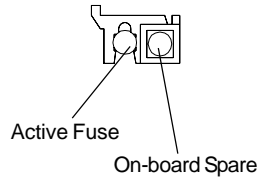

Figure 12
2. Remove fuse holder and check for wear (Fig. 11). If fuse is blown, replace with a new fuse or the on-board spare (Fig. 12).